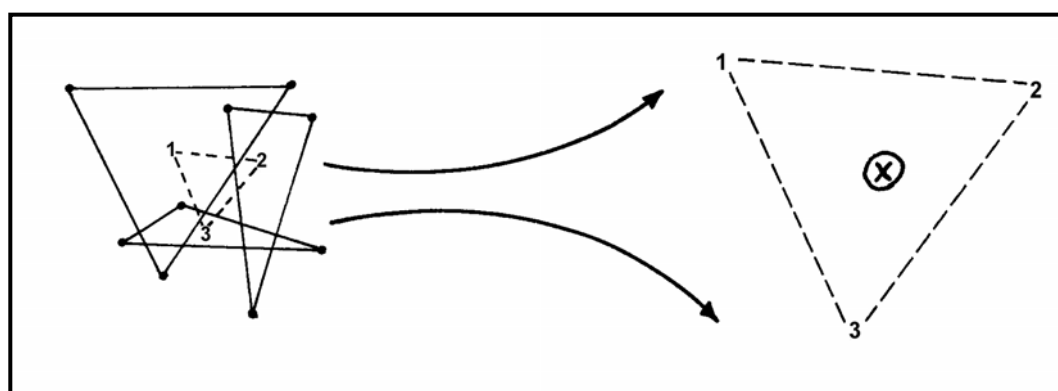

Figure 5-10. Central point of three shot groups.
e. **Multiple Shot-Group Analysis.** Shot-grouping analysis is the ongoing analyses of individual shot groups while comparing them to each other for consistent aiming. The instructor-trainer must understand how to mark shot groupings correctly. If the soldier is to benefit from this exercise, and if the instructor-trainer (or coach) is to provide useful guidance, the soldier must mark each shot group individually and locates the center of more than one shot group. In Figure 5-10 three shot groups were fired. Each shot group was individually connected, marking the center of each with a number (1, 2, 3 and so on). Next, the soldier connects the numbers and places an X in the center. The X represents the center of all three shot groups.